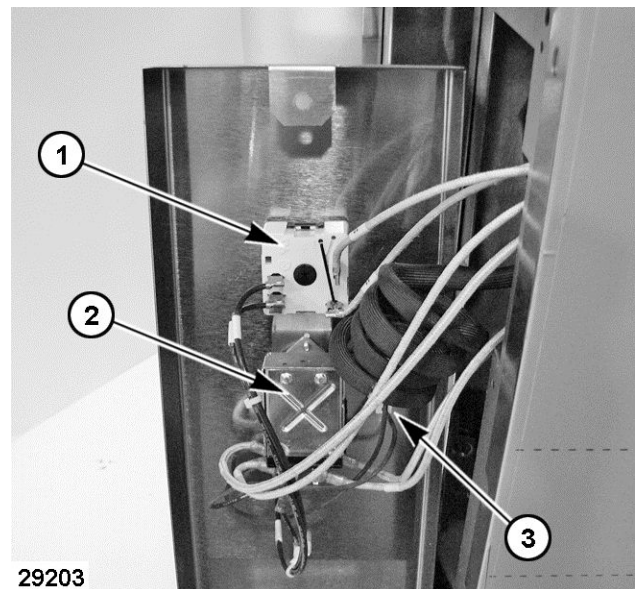

Fig. 7
4. Note wire locations and disconnect from the infinite switch (1, Fig. 7) thermostat (2, Fig. 7) and oven light (3, Fig. 7).